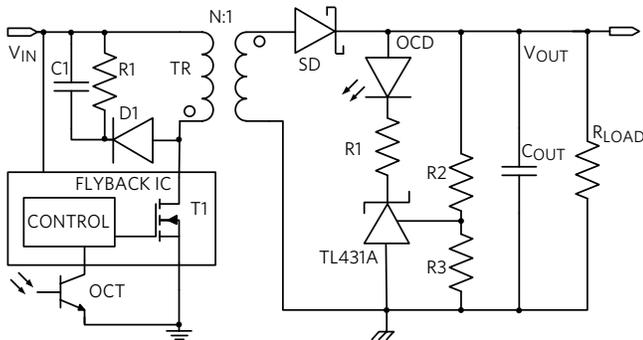

Figure 30. Flyback with Optocoupler
Using galvanically isolated transformers with PWM control is the most common architecture for an isolated DC-DC power supply. The flyback converter is the classic architecture that produces an isolated output. **Figure 30** shows the traditional implementation. During the "ON" time of the transistor T1, the voltage across the primary winding is positive (equal to  $V_{IN}$ ) and the voltage across the secondary winding is negative. Consequently, the Schottky diode (SD) prevents energy from passing to the output and the energy is stored in the transformer. During the "OFF" time of T1, the primary winding inverts its voltage, which allows the energy to be released to the output. The control loop is quite complex, often requiring a shunt regulator (TL431A) on the secondary to regulate the voltage at the output. An optocoupler and error amplifier on the secondary-side of the transformer provide the isolated feedback signal needed to close the PWM control loop to the primary side.